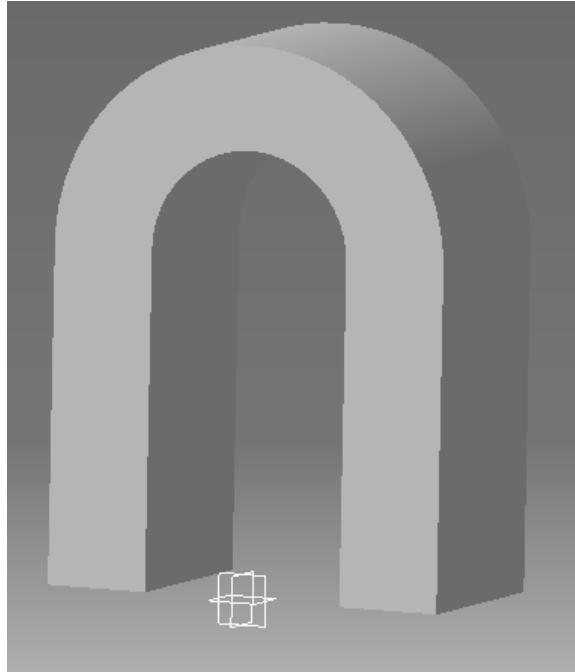

Figure 2.3
- 2.8 Use the **Pad** tool to extrude the profile 40mm. Your part should look similar to the one shown in figure 2.3